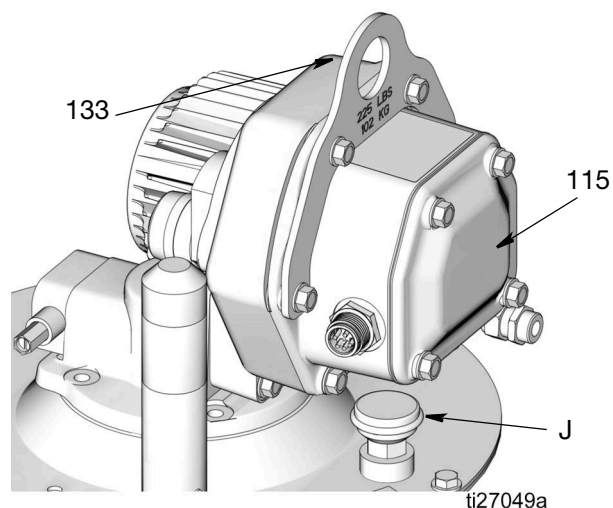

FIG. 9
NOTE: When the pump is correctly installed on the reservoir, the breather (J) will be below the control box (115), as shown in FIG. 9.